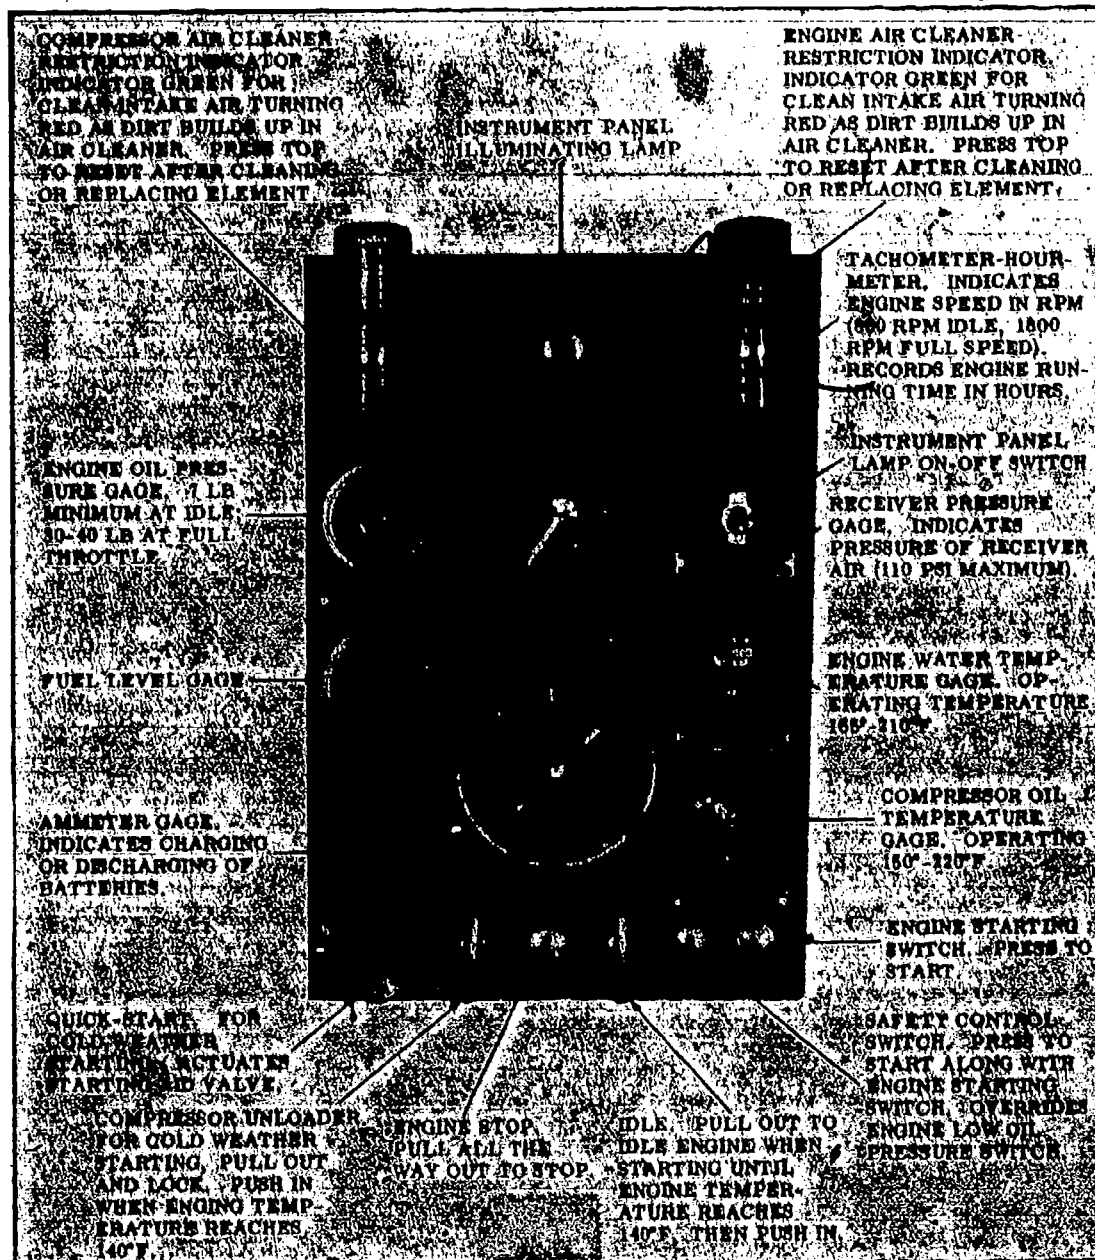

Fig 6-7. Davey 250-cfm rotary air compressor instruments and controls.
- (1) Instrument and control panel. The instruments and controls for starting the engine and operation of the compressor, except setting the operating pressure, are located on a panel on the right rear of the engine. The location and function of the instruments and controls on the panel are illustrated and described in figure 6-7. The adjustments for setting the pressure and engine speed in relation to air demands are made at the engine speed control located just behind the instrument panel on the left side of the engine.